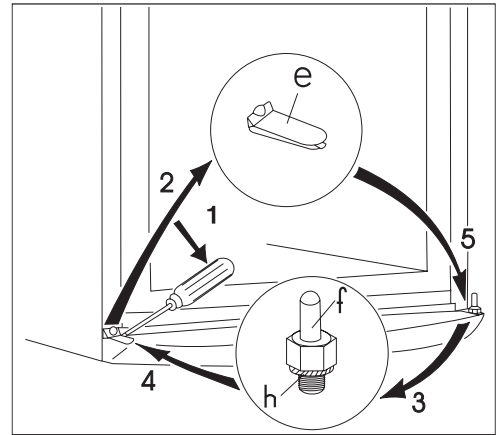

fig. 4.
11. Lift out the insert for the lower covering grid (e) using a screw driver (Fig. 4).
12. Unscrew the bottom door retaining pin for the freezer door (h, f) and then screw in on the other side. Don't forget the spacer (h) (Fig. 4).
19. Place the freezer door on the lower door retaining pin (f) (Fig. 4).